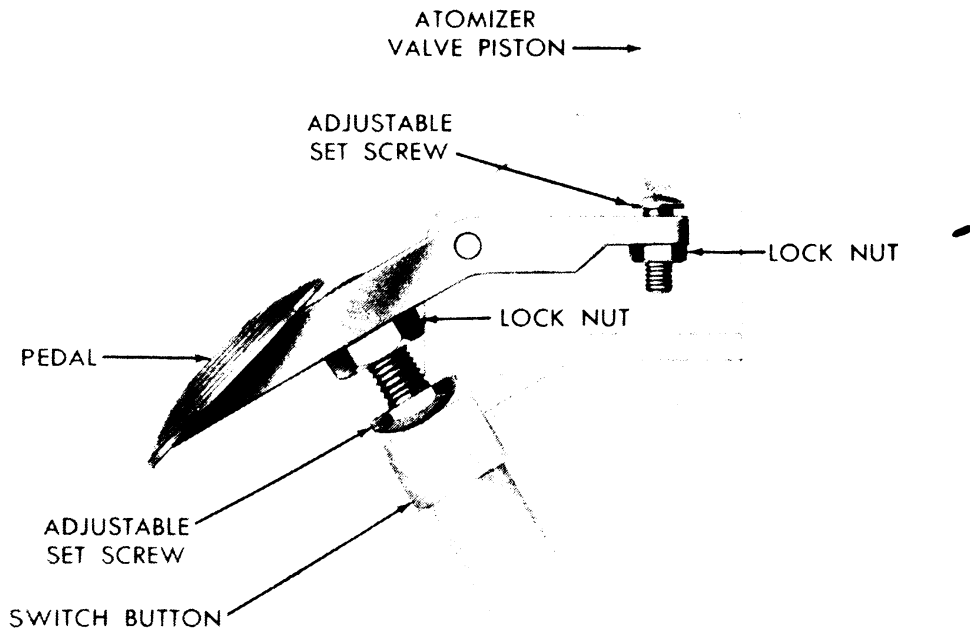

Figure 61—Adjustment of foot control igniter pedal.
(2) *Foot control igniter pedal.* The foot control igniter pedal (fig. 61), located on the floor and operated by the gunner's left foot, closes a switch when depressed and simultaneously actuates the atomizer valve. Two adjusting screws are provided on the foot pedal arm, one for the button (under the igniter pedal) and the other for the atomizer valve piston (on the forward end of the pedal arm). These screws allow proper adjustment to be maintained so that when the pedal is fully depressed the switch is closed and the atomizer valve piston is moved at least $\frac{5}{16}$ -inch. The adjust-
(1) *Foot control igniter pedal adjustment* (fig. 61). The foot control igniter pedal lever contains two adjustable set screws with lock nuts. Upon depression of the foot control igniter pedal, one set screw pushes down against the electrical ignition floor switch and the other set screw moves upward against the atomizer valve piston, actuating the atomizer valve. The two set screws should be adjusted, relative to each other, so that when the foot control igniter pedal has reached the bottom limit of travel, the floor switch button is fully depressed and the atomizer valve piston has been moved upward at least $\frac{5}{16}$ -inch from its "off" position. In the off position of the foot control igniter pedal, the set screw under the atomizer piston should be separated from the lower end of the piston by at least $\frac{1}{16}$ -inch. When the two pedal lever set screws are adjusted as above, lock each screw in this position by means of the lock nuts provided.